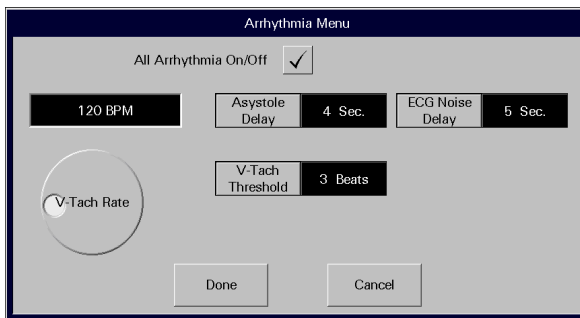

FIGURE 5-9 Arrhythmia Menu Dialog Box (Telepack)
1. Select the All Arrhythmia On/Off check box button (shown in FIGURE 5-9) to enable or disable arrhythmia analysis for the system.